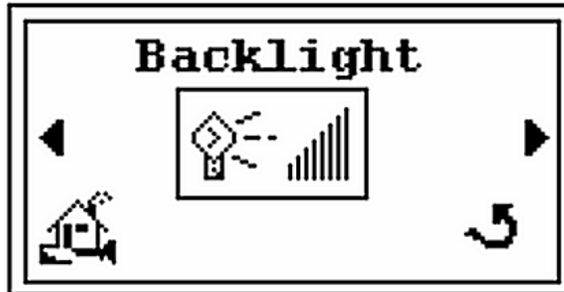

Figure 2-7 Backlight Screen
2. Press the  once and the *Backlight* screen appears (Figure 2-7).
5. Press **Enter** and Figure 2-7 reappears.